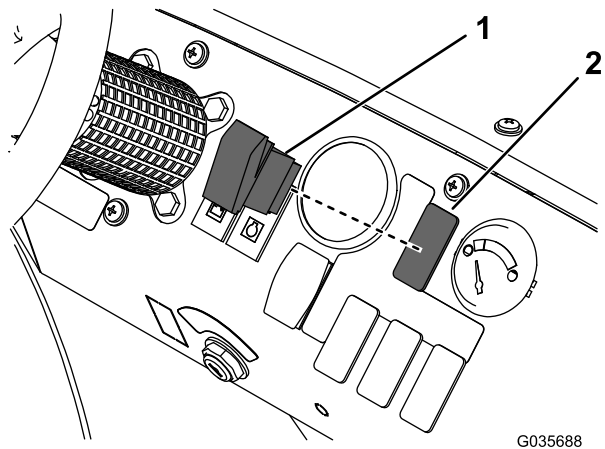

Figure 4
9. Remove the plug from the dashboard (Figure 4).
10. Install the switch into the hole (Figure 4).